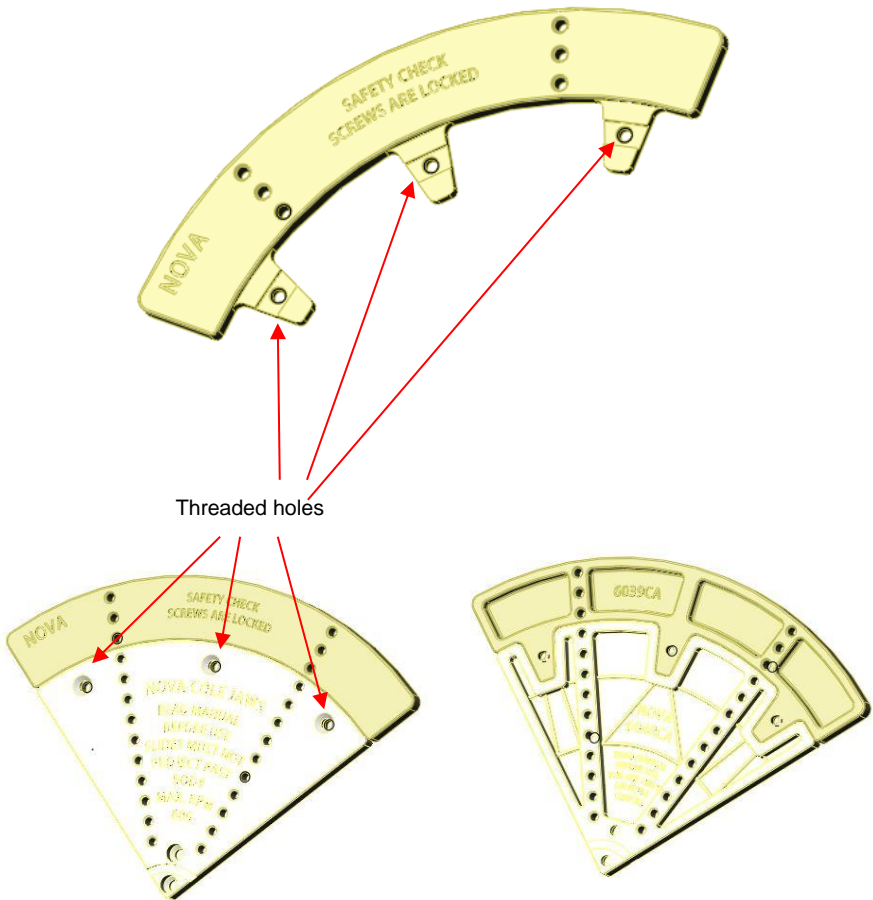

Figure 1 – Extension Accessory and Cole Jaw assembly
1. Align the Extension Accessory with the Cole Jaw, placing tabs on the Extension in the grooves on the back side of the Cole Jaw as shown in Fig. 1. Take care to ensure that all the threaded holes on the extension (indicated by arrows in Fig. 1) are properly aligned behind the through holes in front.